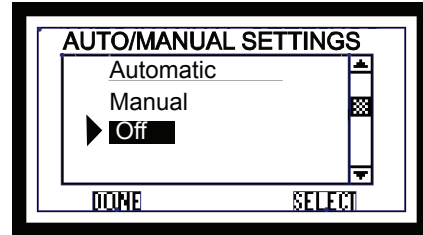

Figure 23.1
1. Set wall control to OFF on AUTOMATIC / MANUAL SETTING screen. **Figure 23.1.**
After servicing, restart with the AUTO/MANUAL SETTINGS screen. **Figure 23.1.**